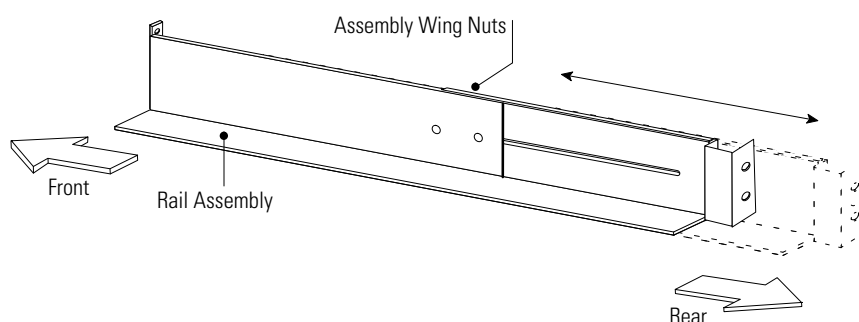

Figure 35. Adjusting the Rail Depth
1. Loosen the assembly wing nuts on both rail assemblies and adjust the rail size for the depth of your rack (see Figure 35).